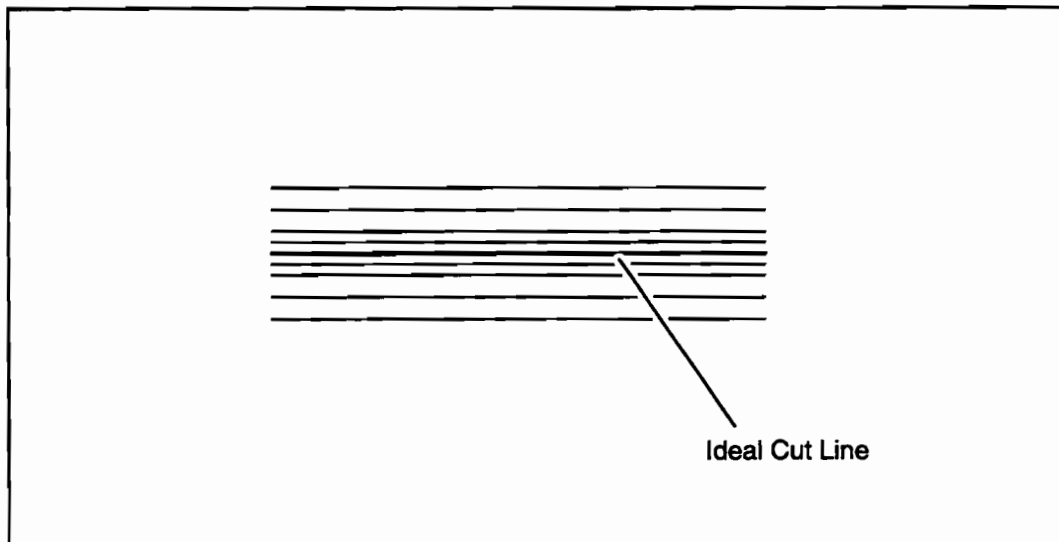

Figure 7-14. Cutter Test Pattern
1. Turn the plotter OFF (O).
5. Apply power and turn the plotter ON (I).
7. The plotter will generate a cutter test pattern (see Figure 7-14), advance and cut the media at 90 mm (3.54 in.).